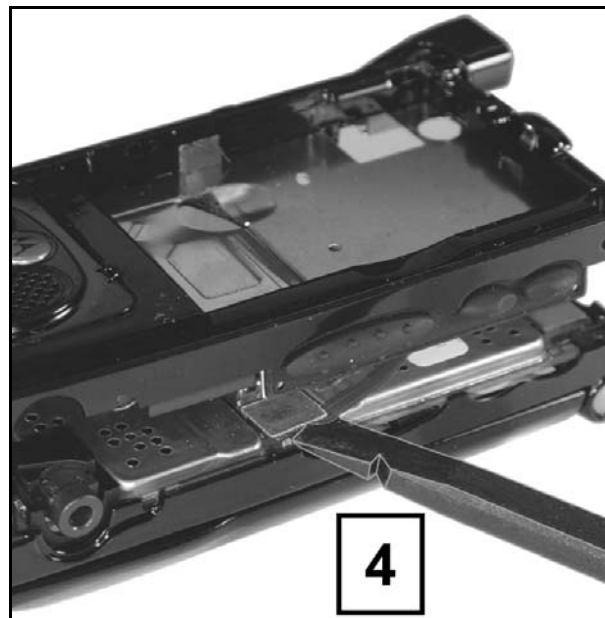

Figure 7-8.
4. Remove audio jack seal. Wedge stick 1/16" under edge of flex pad to unseat speaker/vibe/PTT/SB flex connector (see Figure 7-8).